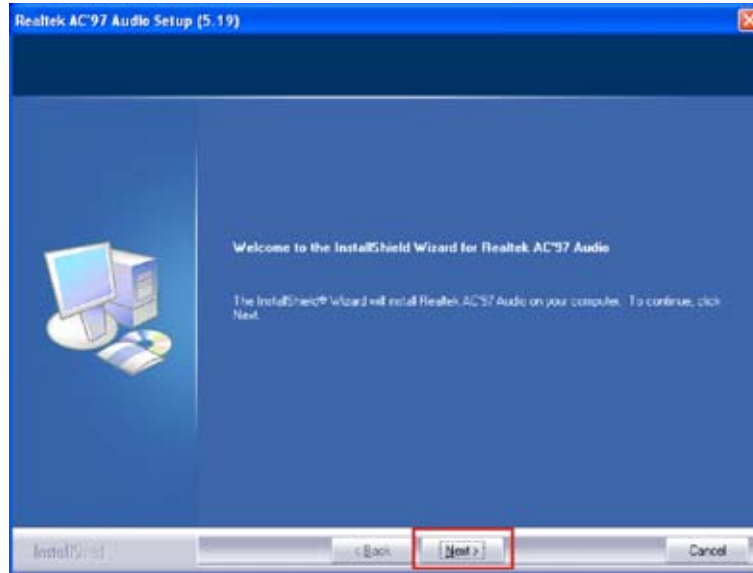

Figure 7-21: AC'97 Driver Installation Welcome Screen
Step 50: The AC'97 Driver Installation screen in **Figure 7-21** appears.